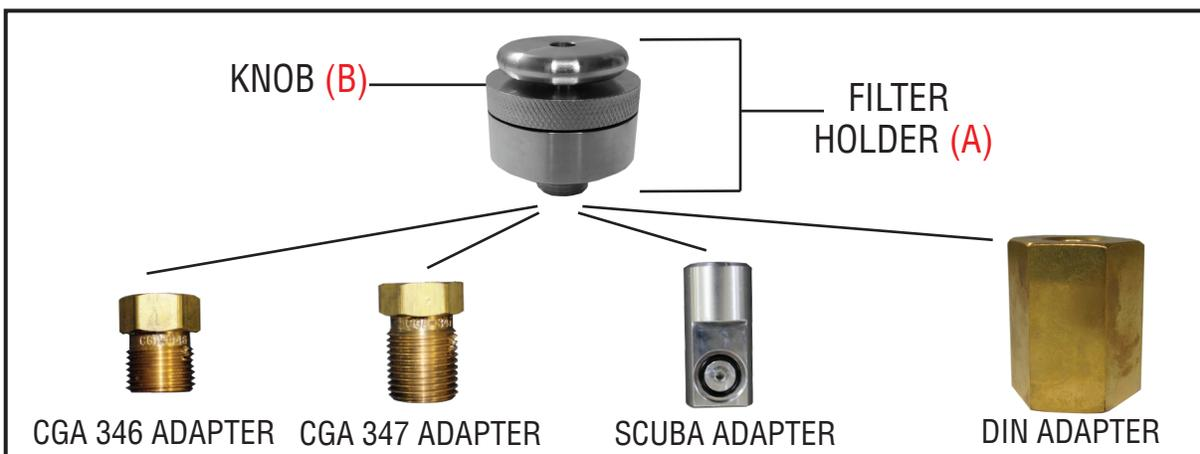

Figure 13: Different set ups depending on application
E. From the kit choose the appropriate ADAPTER for your tank filler, (i.e. SCUBA, DIN, CGA), and screw onto Filter Holder (Fig. 13).